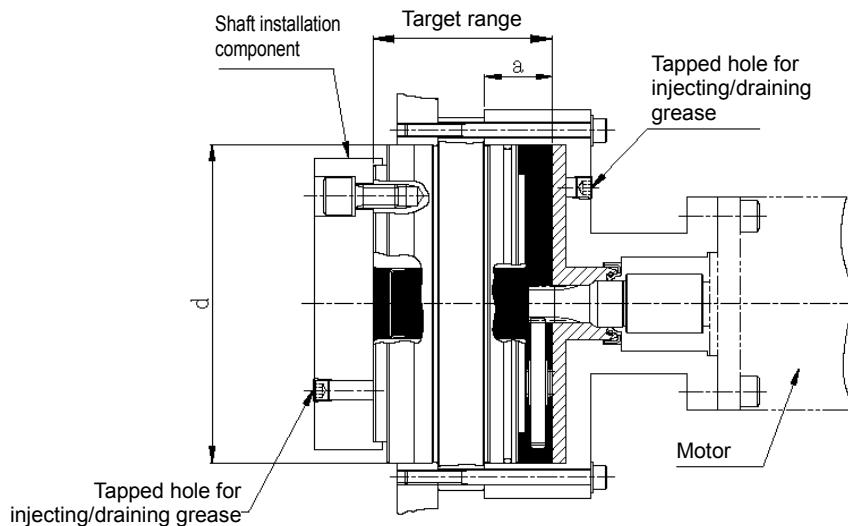

Fig. 6-1
- The shape of the reduction gear may differ from the illustration in Fig. 6-1 above, depending on the ordered specifications. For details on the shape, refer to the catalog and the separately provided “External dimensions” drawings and specification sheet.